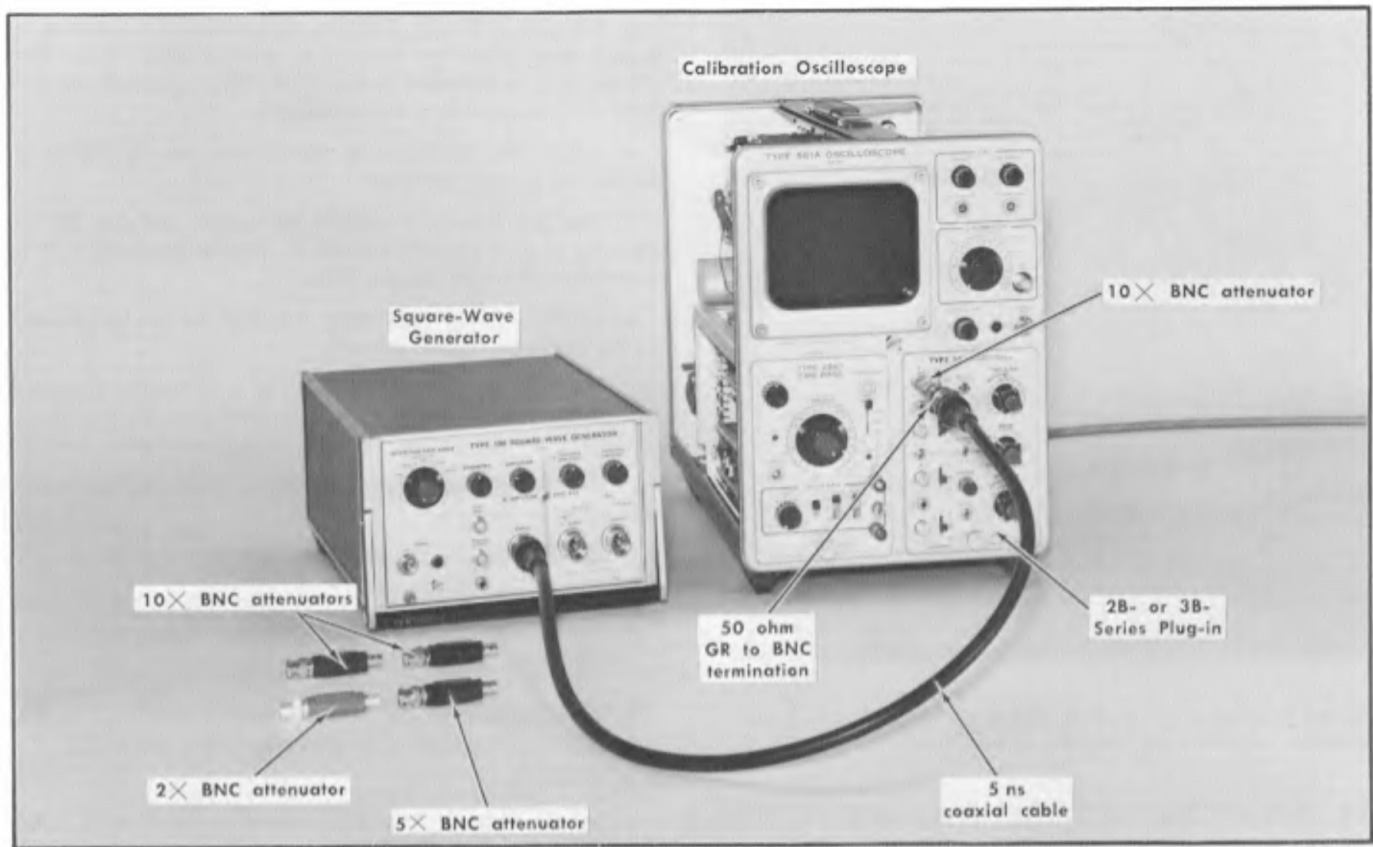

Fig. 6-17. Initial test equipment setup for steps 28 and 29.
- a. Test equipment setup is shown in Fig. 6-17.